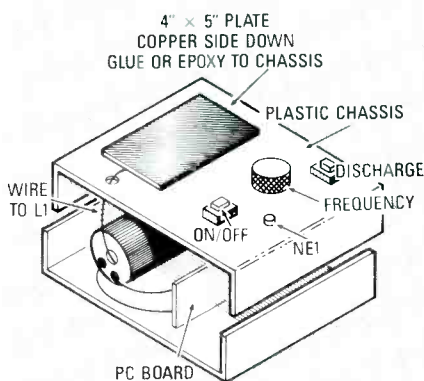

FIG. 5—TO MAKE THEM EASIER TO FIND in the dark, cluster the unit's operating controls around NE1.
The primary-coil (L1) is wound on a form cut from a 4-inch diameter, plastic sewer pipe to a length of five inches (see Fig. 5). Take a 27-foot piece of #12 insulated solid-copper wire and strip away a 1/8-inch section of insulation at about every 12 inches, continuing for one-half the length of the wire (12 times total). Those stripped areas serve as tap points for tuning the coil.
**Fig. 5**—The form on which L1 is wound is a five-inch length of four-inch diameter, plastic sewer pipe. A 27-foot length of #12 insulated solid copper wire (with 12 quarter-inch sections of insulation stripped away at intervals of about every 12-inches) is then wound onto the form.
Wind the coil starting at the top of the coil form (see Fig. 5) with the end that has the 12 tap points. In other words, turn 25 is the first winding to be made. That gives a tap on every turn from turn number 13 to turn number 25. Drill two small holes in the coil form where the winding starts and ends. Those holes are used to secure the ends of the windings (see photos).